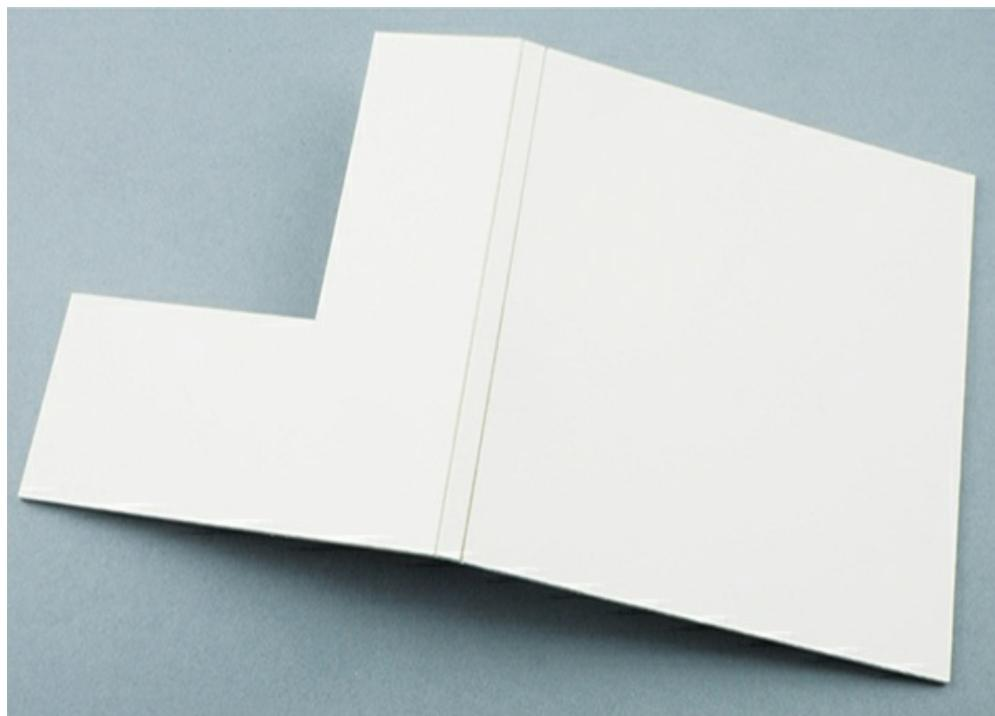

Figure 8-2: Making the hinge and cutting out a place for the micro:bit
1. Draw two parallel lines roughly halfway down the cardboard and about 1/4 inches (5 mm) apart, as shown in Figure 8-2. You'll fold the cardboard along these lines. Also, mark the rectangular part of the cardboard you want to cut out. Make sure the hole you'll make is big enough for the micro:bit's screen.